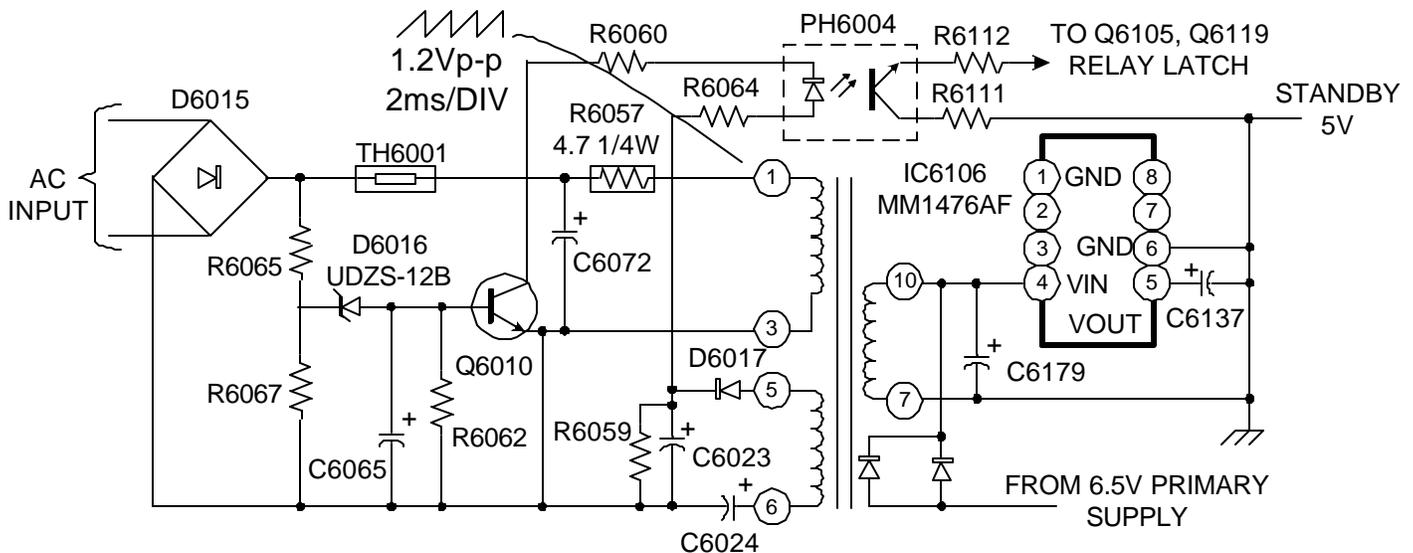

FIGURE 16-1 - RA-5A CHASSIS STANDBY SUPPLY
As illustrated in Figure 16-1, the standby power supply is rather unique in that the incoming AC voltage is rectified before being applied to the primary side of T6003. The DC pulses from the rectifier are used to fluctuate the current in the primary winding. The secondary supplies unregulated B+ to 5V regulator IC6106. Zener diode D6016 monitors the rectified AC for excessive voltage. If the voltage at the divider consisting of R6065 and R6067 rises above 12V, Q6010 will turn on. The LED inside PH6004 will light and cause the phototransistor to output a high to the main AC relay latch circuit to shut the unit down.
1. AC In OVP: The unregulated B+ in the standby supply primary is monitored by Q6010 and will turn on PH6004 to activate the protect latch. This is illustrated in Figure 16-1 in Chapter 16...